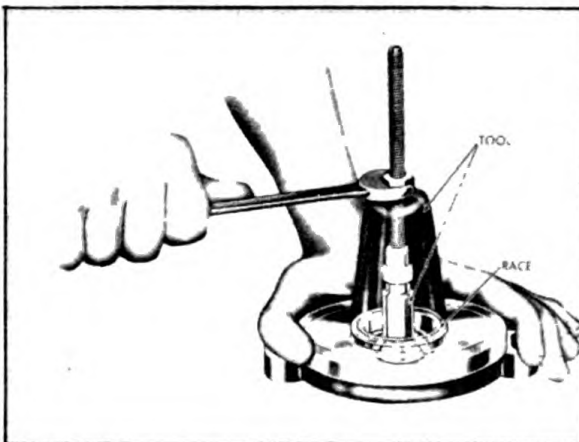

Figure 242. Removing Outer Race Rings.
H. Remove ball bearing outer race rings from drive end of magneto frame and reverse side of the interrupter bracket by using tool No. TSE-76101. See Figure 242.